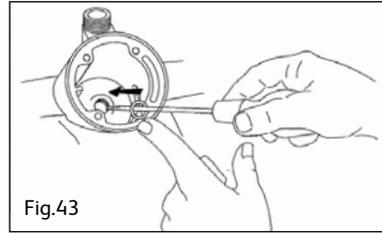

Fig.43
- The new O-ring may be fitted into position by first sliding it onto the blade a screwdriver. Hold the tip of the screwdriver into the hot water way and then manoeuvre the O-ring down into position (Fig 43).